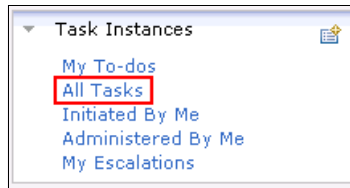

Figure 5-93 Navigating to All Tasks
5. To execute the human tasks, select **Task Instances** → **All Tasks** (Figure 5-93).